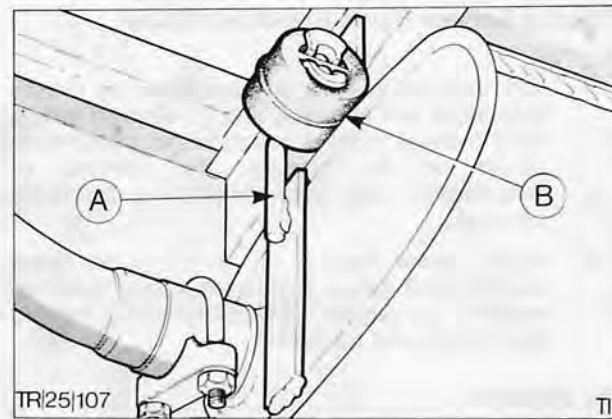

Fig. 9. Front mounting
6. Disconnect front muffler section from its support point by unhooking rubber insulator from hanger, Fig. 9. Guide exhaust clear of vehicle.